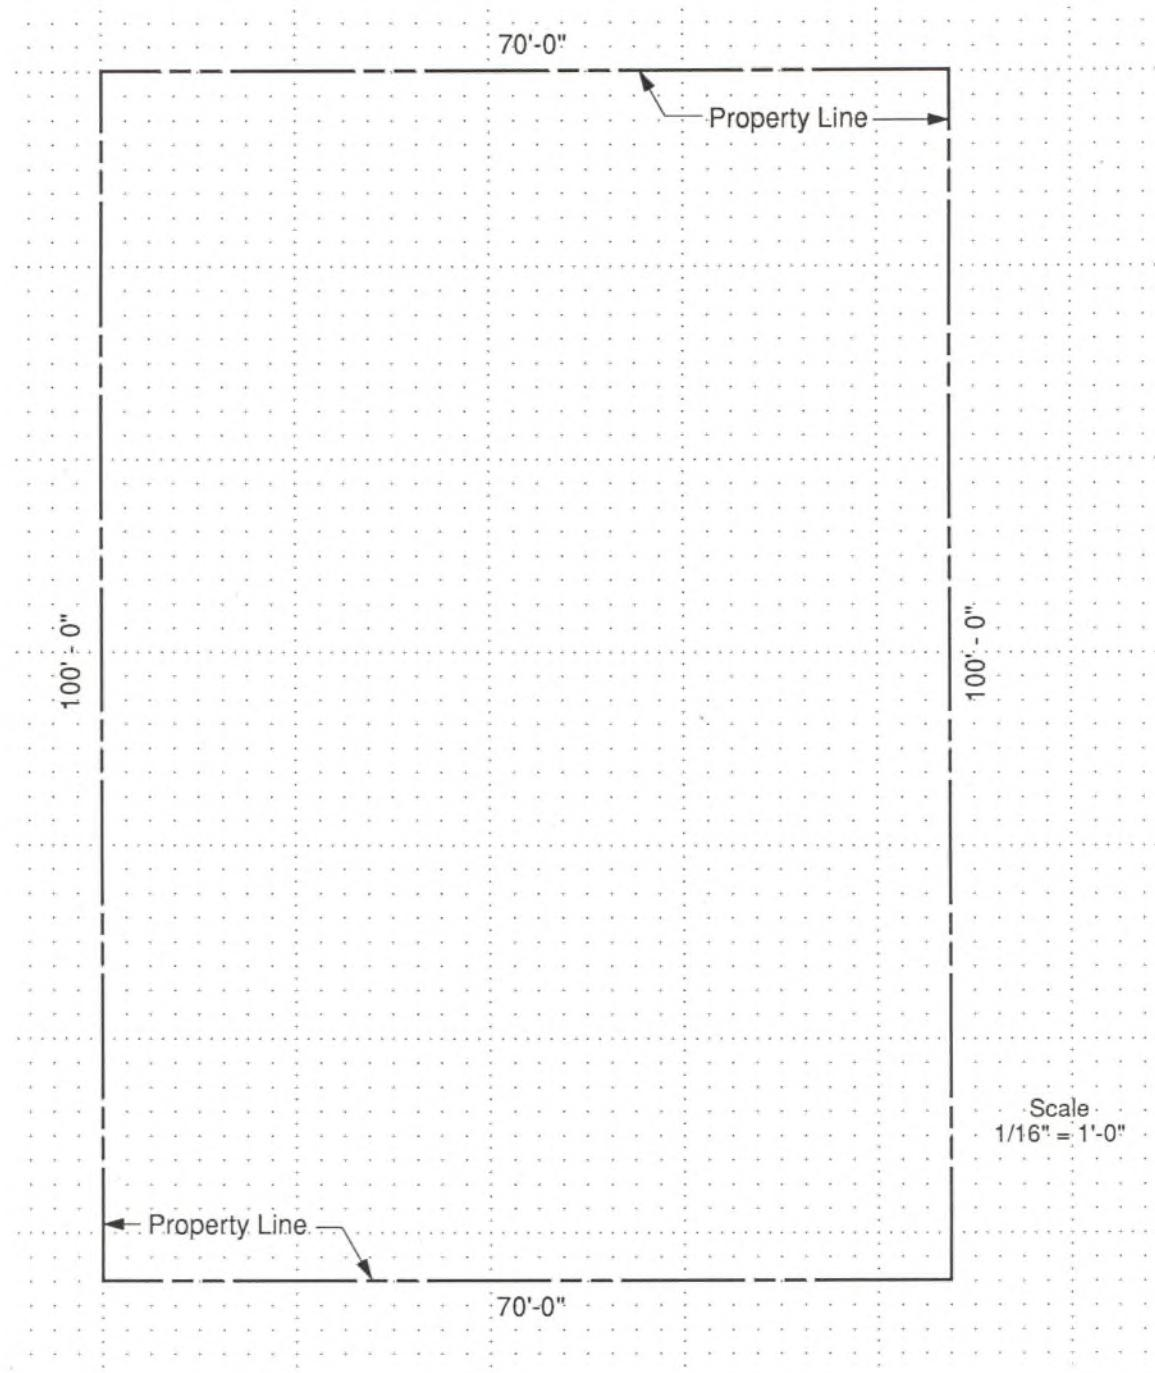

Fig 26.1 An example of a lot drawing (referred to as a plot plan).
Figure 26.1 is an example of a plot plan for a level lot, rectangular in shape, measuring 70' in width and 100' in depth. This drawing shows lot boundary lines (property lines) only.
1. Draw a plot plan of a lot on tracing paper fastened over a small sheet of grid paper. Lay it out with the 1/16" scale provided with the book. If you do not have a specific lot in mind, use the sample lot, Fig. 26.1, which is a typical lot size.
3. Draw lines representing the property lines of the lot. The lines should be composed of one long dash and two short dashes, as shown in Fig. 26.1.